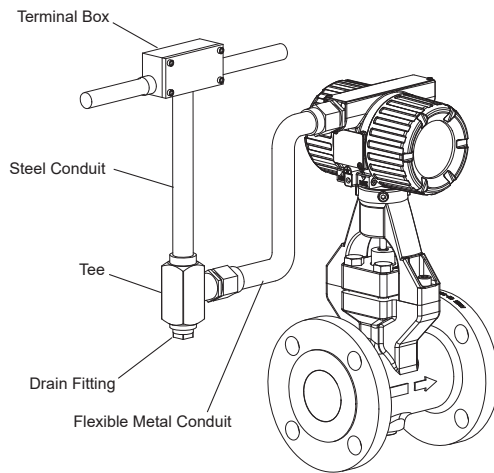

Figure 4.8 Wiring Example (Integral Flowmeter/Remote Sensor)
- (3) Use of a flexible metal conduit and a duct for wiring for waterproofing or for protecting electrical wires from damage is recommended (see Figures 4.8 and 4.9).